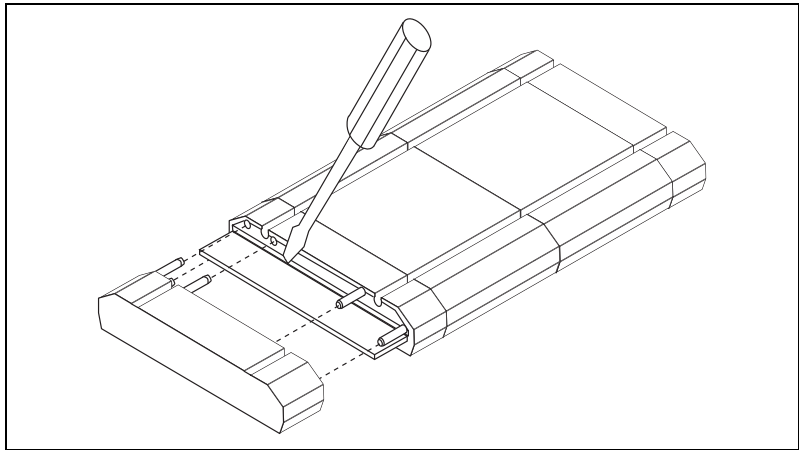

Figure 5. Removing the Connector Block Ends
- For rail mounting, pry off the right and left ends of the connector block with a screwdriver as shown in Figure 5.